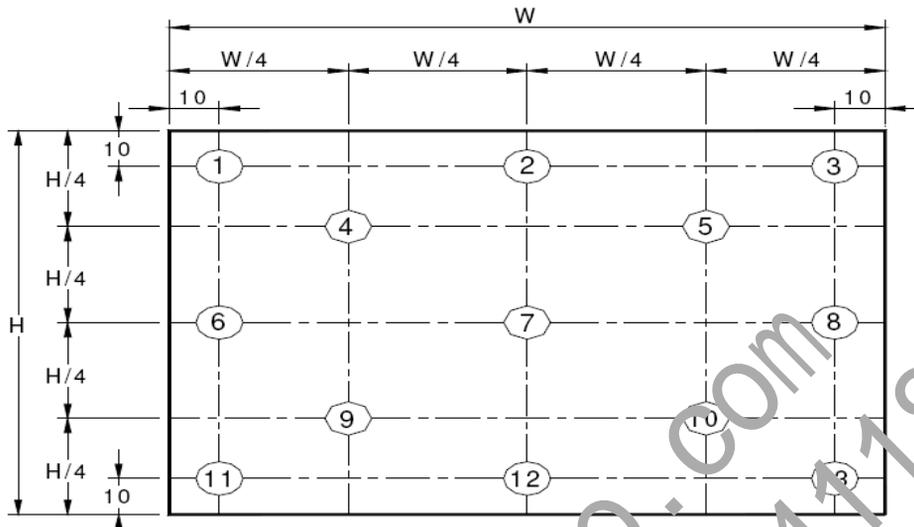

Figure 9. Uniformity Measurement Locations (13 points)
- The White luminance uniformity on LCD surface is then expressed as : $\Delta Y = \text{Minimum Luminance of 5(or 13) points} / \text{Maximum Luminance of 5(or 13) points.}$ (see Figure 8 and Figure 9).
The White luminance uniformity on LCD surface is then expressed as : $\Delta Y5$ = Minimum Luminance of five points / Maximum Luminance of five points (see Figure 8), $\Delta Y13$ = Minimum Luminance of 13 points / Maximum Luminance of 13 points (see Figure 9).